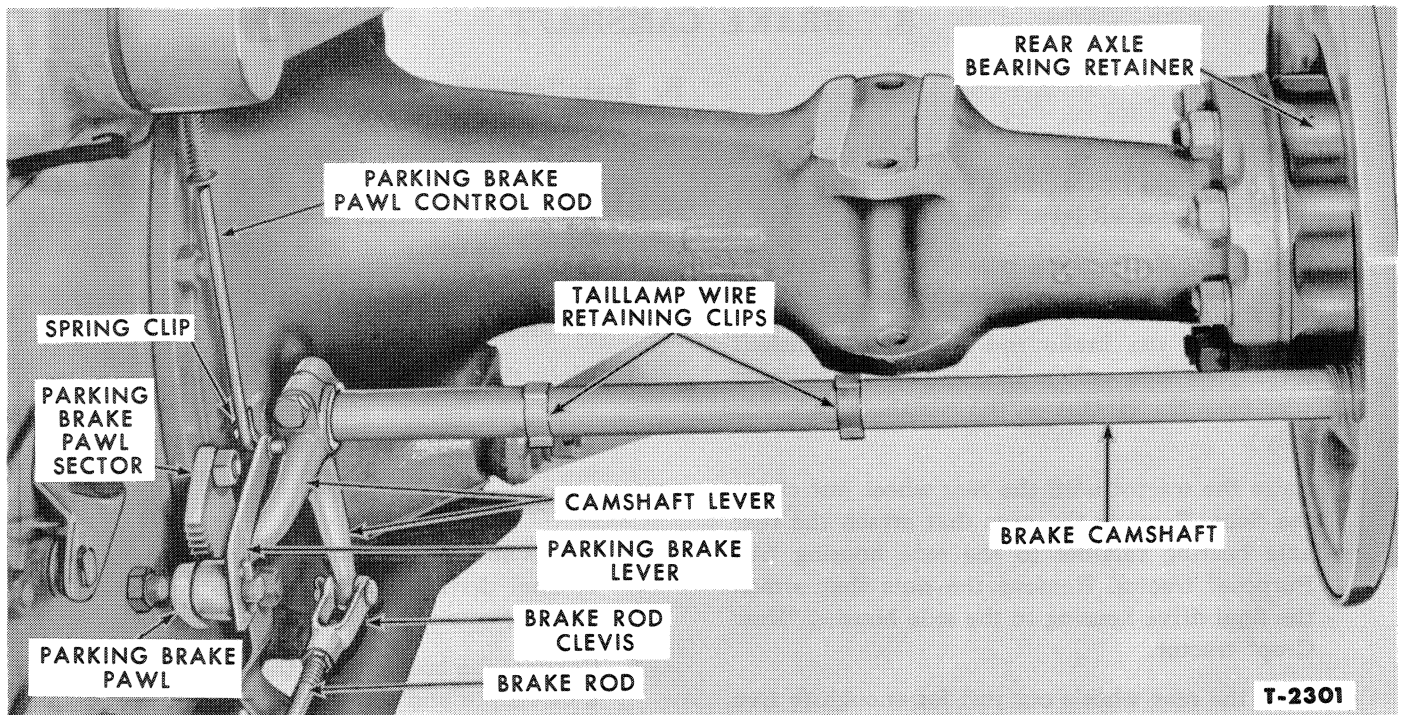

Figure 5—Parking Brake Linkage Installed
1. Disconnect the parking brake pawl control rod from the parking brake lever, Figure 5.